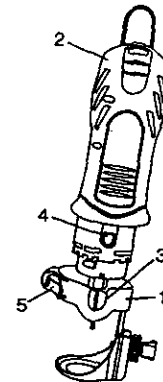

Fig. 4
2. Install freehand sole plate as shown in Fig. 4.